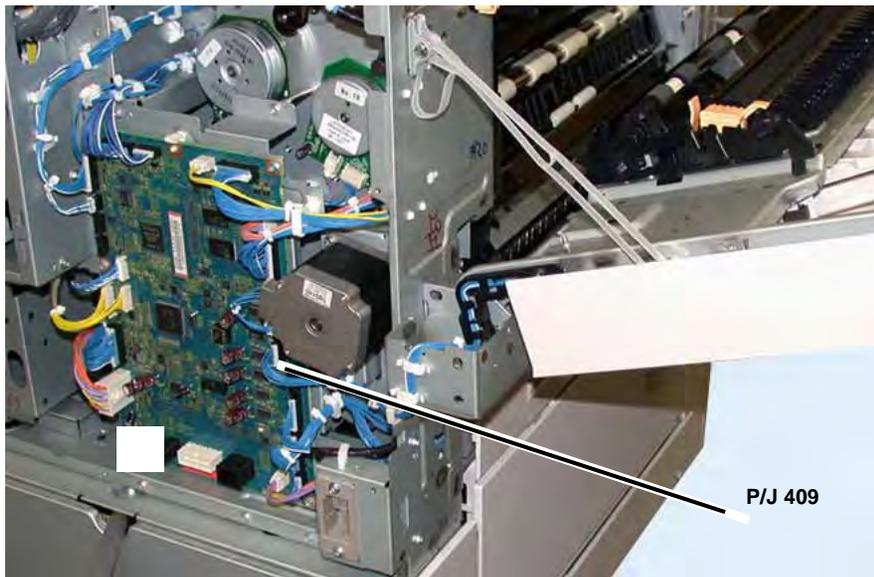

Figure 1 P/Js
4. Perform the following (Figure 1).